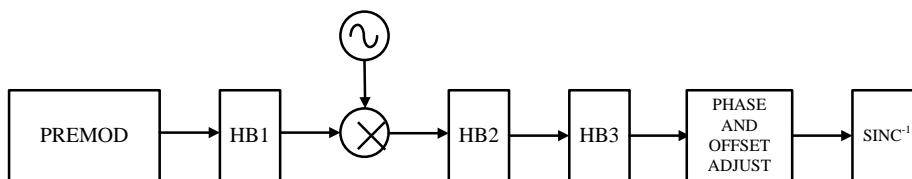

Figure 7-12. Block Diagram of Digital Data Path
The block diagram in the Figure 7-12 shows the functionality of the digital data path. The digital processing includes a premodulation block, three half-band (HB) interpolation filters, a quadrature modulator with a fine resolution NCO, phase and offset adjustment blocks, and an inverse sinc filter.